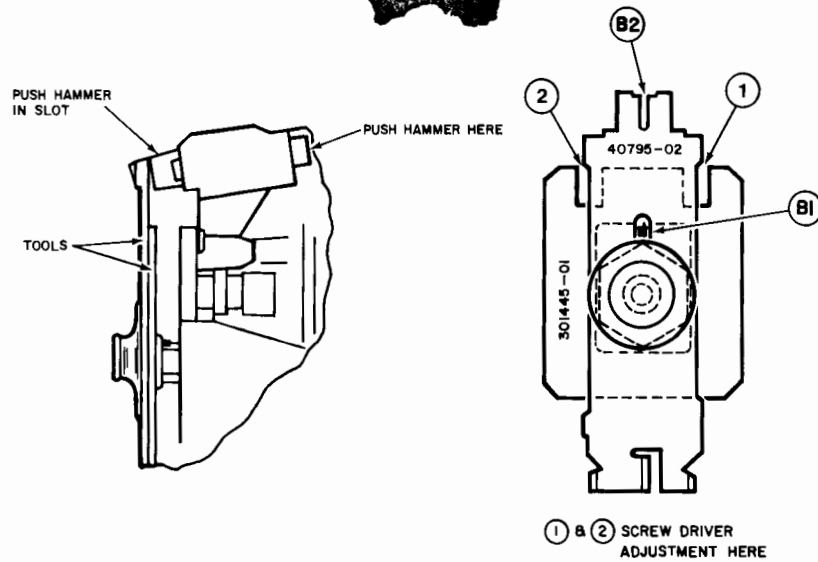

Figure 3.
6. To adjust, place the tip of a blade screwdriver in either point 1 or 2 as shown on figure 3. The screwdriver may then be twisted to move the alignment plate in relation to the print wheel hub to achieve proper alignment.